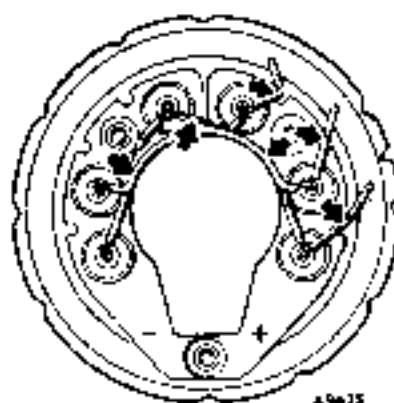

Fig. N.54
- (13) Remake the cable connections to the heat sink using 'M' grade 45-55 tin-lead. Take care not to overheat diodes or bend the pins. Secure the interconnections in the positions shown in Fig. N.54 using a high temperature resistant adhesive.
- (14) Check that the bearings do not allow excessive side-float of the armature shaft. If the needle bearing is faulty, the slip ring end bracket and